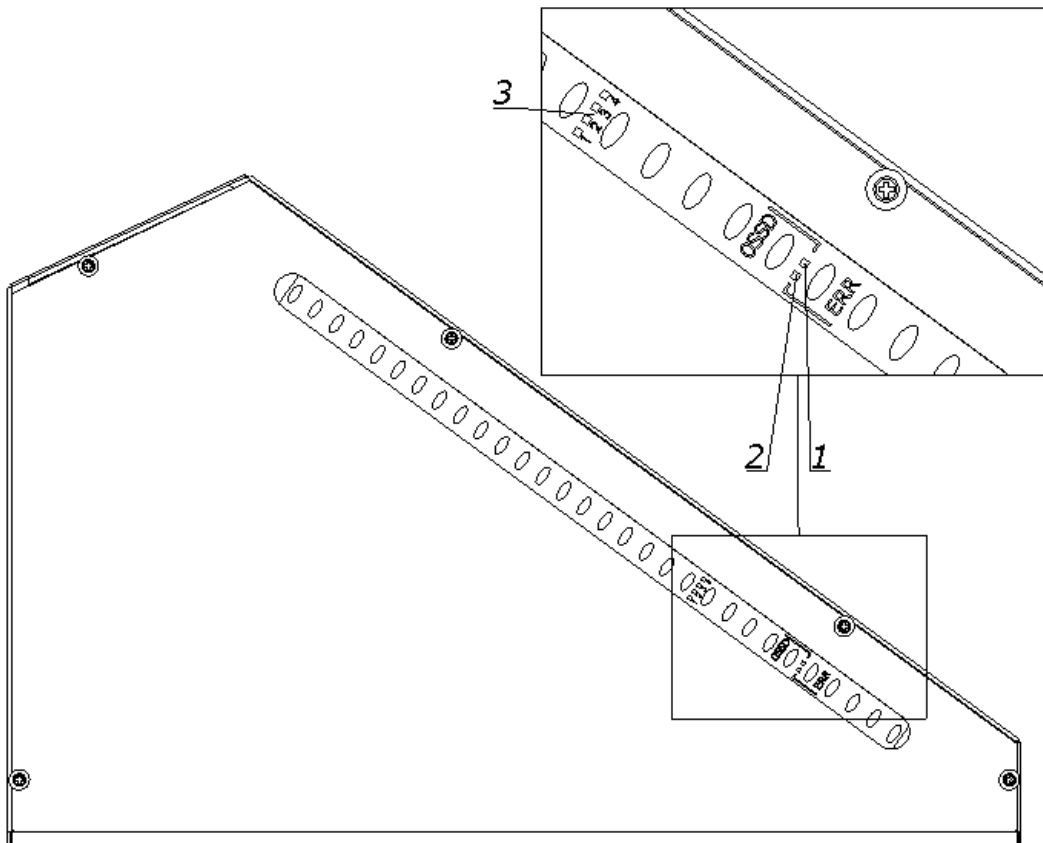
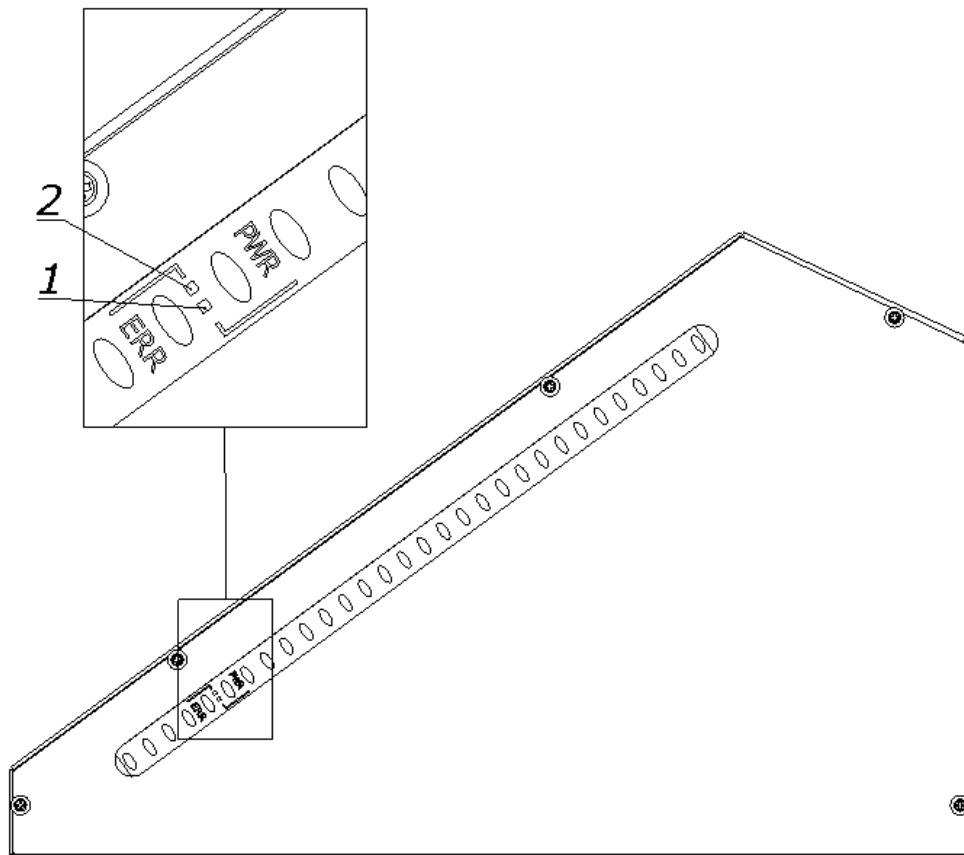
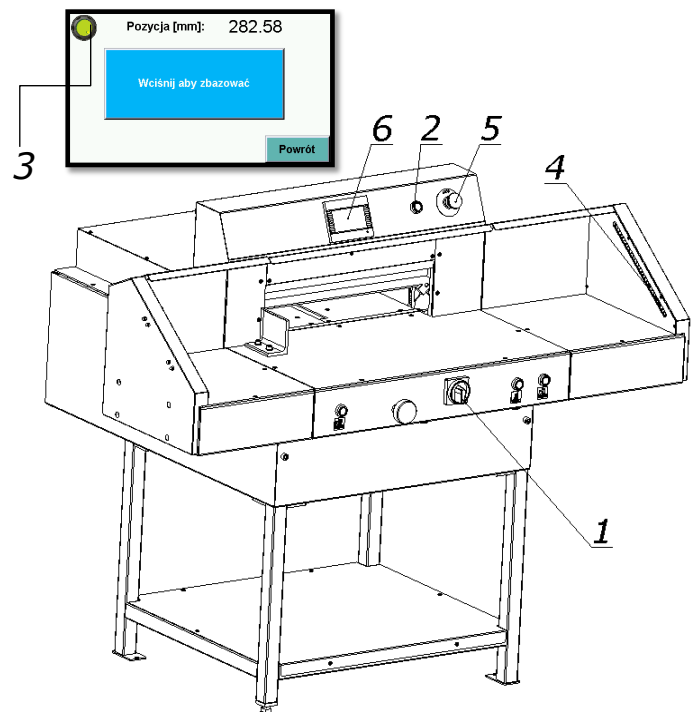
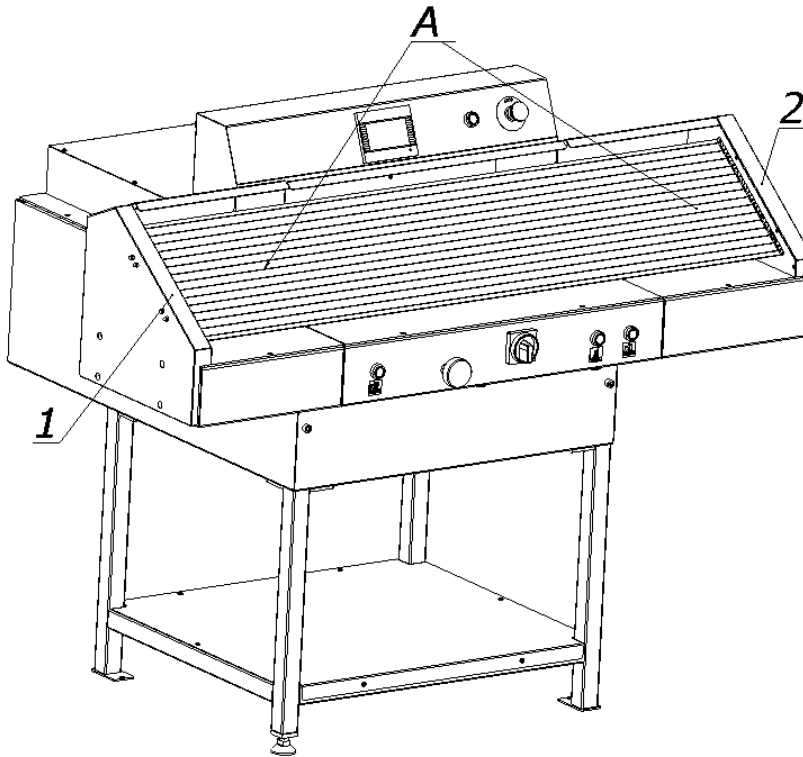

Figure 11. Indicators of the receiver
Figure 12. Indicators of the transmitter
Figure 15. Arrangement of the elements used when switching the cutter.
Figure 16. Safety curtain
1. Set the main switch 1 to "ON" 1 position (Fig. 15)
2. Press the green button 2 (Fig.15)
- green LED 3 on the program unit 6 display lights up (fig.15)
- the green OSSD 1 LED lights up (Fig.11) in the receiver 4 (Fig.15)
When the cutter is switched on, the transmitter 1 and receiver 2 are initialized (fig. 16). All transmitter and receiver LEDs will light for a moment. After initialization the receiver indicates the quality of the setting using four blue LEDs 3 (Fig.11). Table 8.
The setting indicator extinguishes after a suitable time when the safety light curtain is set (the LED of the device switching the output signal: green item 1 figure 11) and only the PWR LED of transmitter 1 (fig.12) and LED 1 (fig. 11) device for switching the output signal of the receiver.
1. Press the button 5 (Fig.15)
1. Unlock button 5 (turn it around) (Fig.15)